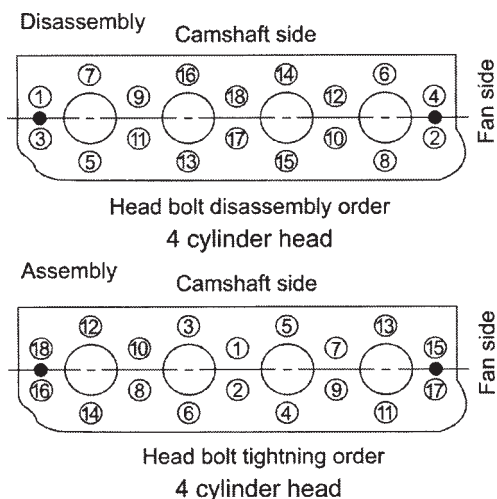

Figure 9: Cylinder Head Bolt Torque Sequence
3. Tighten head bolts with a torque wrench in the order shown in figure 9. Tighten bolts evenly in 2 or 3 passes, ending at the specified torque in final pass.